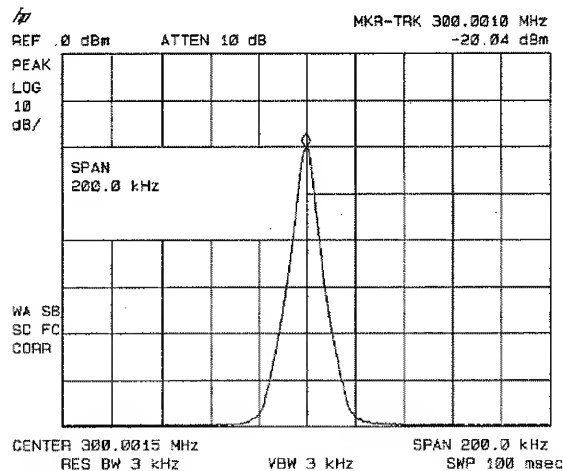

Figure 3-7. After Zooming In on the Signal
3. Press **SPAN**, 200 **kHz**. The span decreases in steps as automatic zoom is completed. See Figure 3-7. You can also use the knob or step keys to decrease the span or use the **PEAK ZOOM** function under **SPAN**.